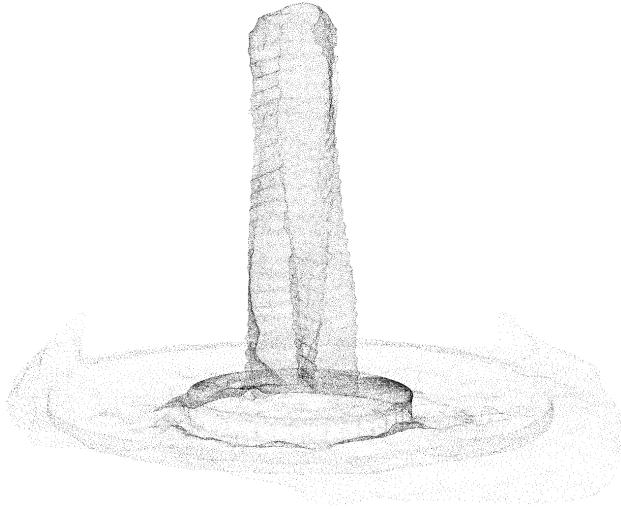

Figure 8: 3D model of the LTU fountain that the MAV should navigate around
- The camera covers an area of $1.5 \times 1.5 \text{ m}^2$ when MAV is 1 m away from the structure (applies to Figures 8 and 9).
- The MAV should have 1 m safety distance to the object (applies to Figures 8 and 9).
- The MAV can start with arbitrary initial condition. The path should be generated in a way that the camera footprint inspect the structure depicted in Figure 8. You must run the “fountain.m” file to access the LTU fountain 3D model.
- (Optional) In case of multiple MAVs, generate paths for each MAV for Figures 8 and 9. The paths should be collision free and results to shorter flight times compare to single MAV.